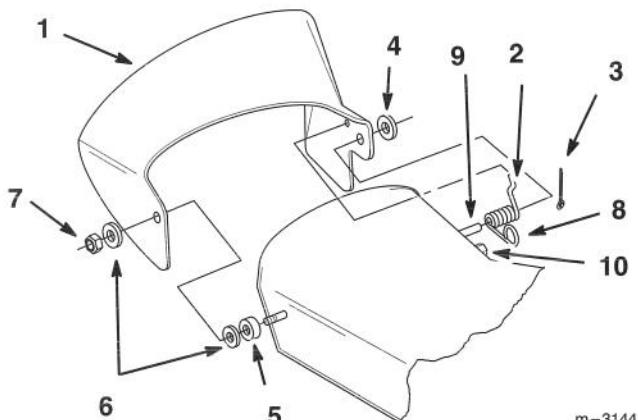

Figure 36
1. Locate the items shown (Fig. 36).
3. Position the spring and discharge chute over the post on the rear of the deck and secure them with a 1/2" (13 mm) washer and a 3/4" (19 mm) cotter pin (Fig. 36).
6. Place the discharge chute over the stud and secure it with a second nylon washer and 3/8" jam nut (Fig. 36). The jam nut must be tightened flush with the end of the stud.